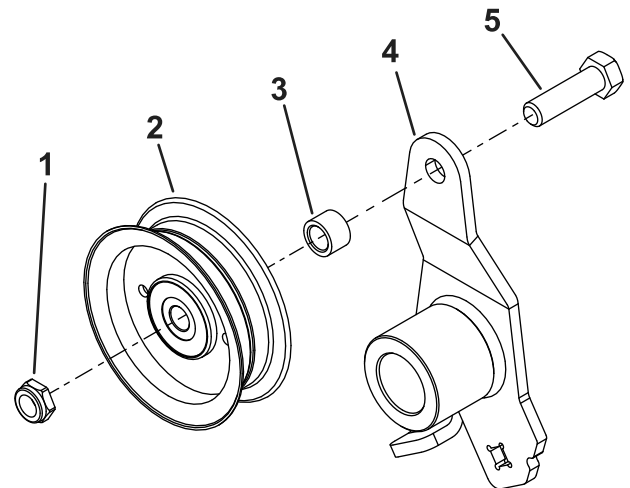

Figure 4
1. Install the idler pulley to the idler arm with a bolt (1/2 x 1-3/4 inches), spacer, and 1 locknut (1/2 inch); refer to Figure 4.